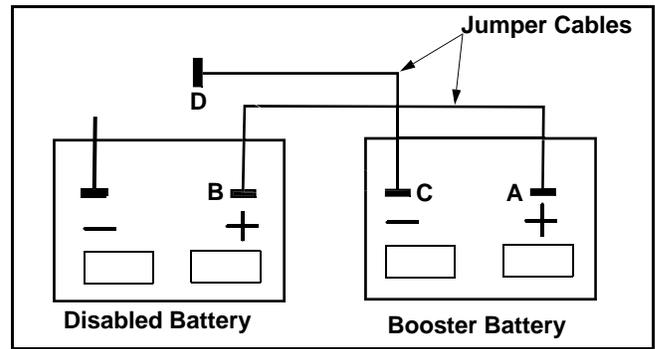

Figure 15
- Connect positive (+) jumper cable to booster battery positive (+) post (A). See Figure 15.
- Connect the other end of positive (+) jumper cable to the disabled vehicle battery positive (+) post (B).
- Connect negative (-) jumper cable to booster battery negative (-) post (C).
- Connect the other end (D) of negative (-) jumper cable to a metal part of the disabled machine frame away from battery.